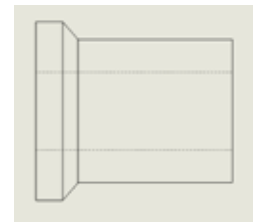

Figure 3
- Modify Outer Spacers by machining or drilling outer spacers to match large ( $\frac{3}{4}$ "") bore as shown. Ensure spacers slide freely over full length of pivot shaft. See Figures 3 and 4